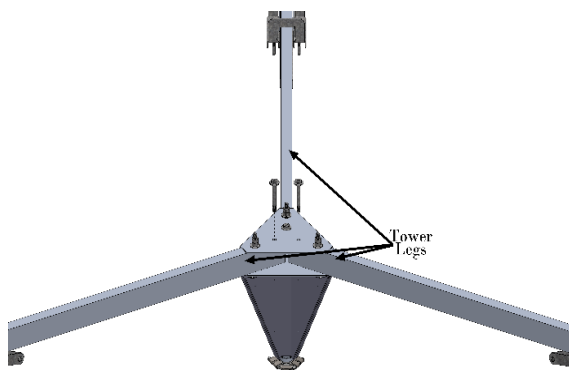
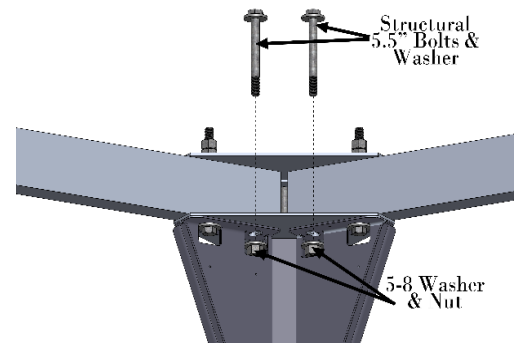

Figure 123 Tower Base
Figure 124 Collapsed tower base
5. Remove (2) 5-1/2" bolts as per Figure 123 then collapse the tower base as per Figure 124.